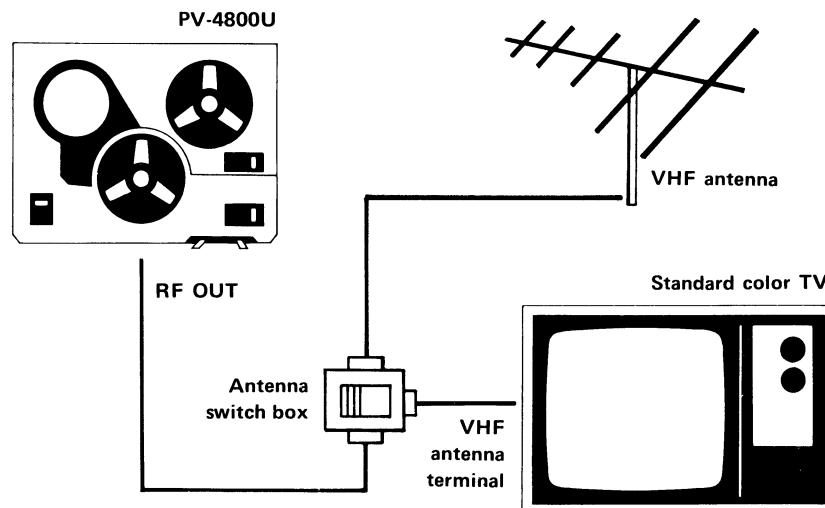

Fig. 1-26
- a. Connect the RF cables provided with the KR-200U between the RF OUT jack and the VHF antenna input of the TV. This connection should be done through the antenna switch box. Adjust the TV channel to the output of the RF Converter. (This output should be adjusted to Channel 5 or 6, 3 or 4, depending on the unoccupied channel utilized.) (See Fig. 1-26.)
- a. Connect the PV-4800U RF OUT connector to the TV antenna terminal. (See Fig. 1-26) Connect a 600Ω microphone to the MIC jack.